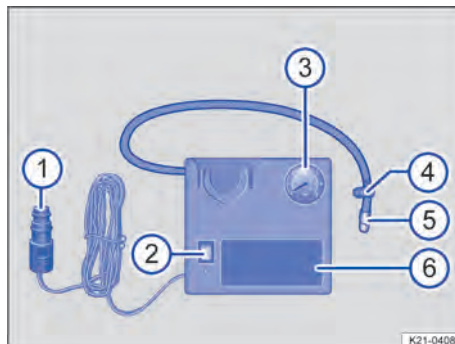

Fig. 220 Illustration: air compressor from the breakdown set.
1. Screw the tyre filler hose → Fig. 220 ⑤ of the air compressor tightly onto the tyre valve.
2. Check that the bleed screw → Fig. 220 ④ is closed.
4. Insert the 12-volt plug → Fig. 220 ① into one of the vehicle's 12-volt sockets → page 211.
5. Switch on the air compressor with the on/off switch → Fig. 220 ②.
6. Run the air compressor until the tyre pressure has reached 2.0 bar – 2.5 bar (29 psi – 36 psi/200 kPa – 250 kPa) →  **Maximum running time: 8 minutes** → ①.
2. Reconnect the tyre filler hose → Fig. 220  and read the tyre pressure on the tyre pressure display → Fig. 220 .